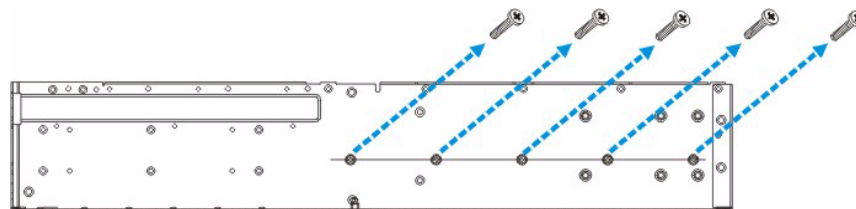

Fig. 3.2 Enclosure Side Mounting Holes (2)
- Integrators may design their own brackets or slide rails using the twenty-two (22) mounting holes on the sides of chassis.
- There are six (6) mounting holes with six (6) M4 nuts near the end of the chassis on each side. Shown below are the locations of these mounting holes. (See the arrow marks in *Figure 3.2*). See the next diagram for another group of mounting holes on a horizontal line.
- *Figure 3.2* shows holes that are designed for slide rail options. There are five (5) mounting holes for #6-32 screws on the sides of the enclosure for use with slide rails purchased separately from Bosch or other vendors.